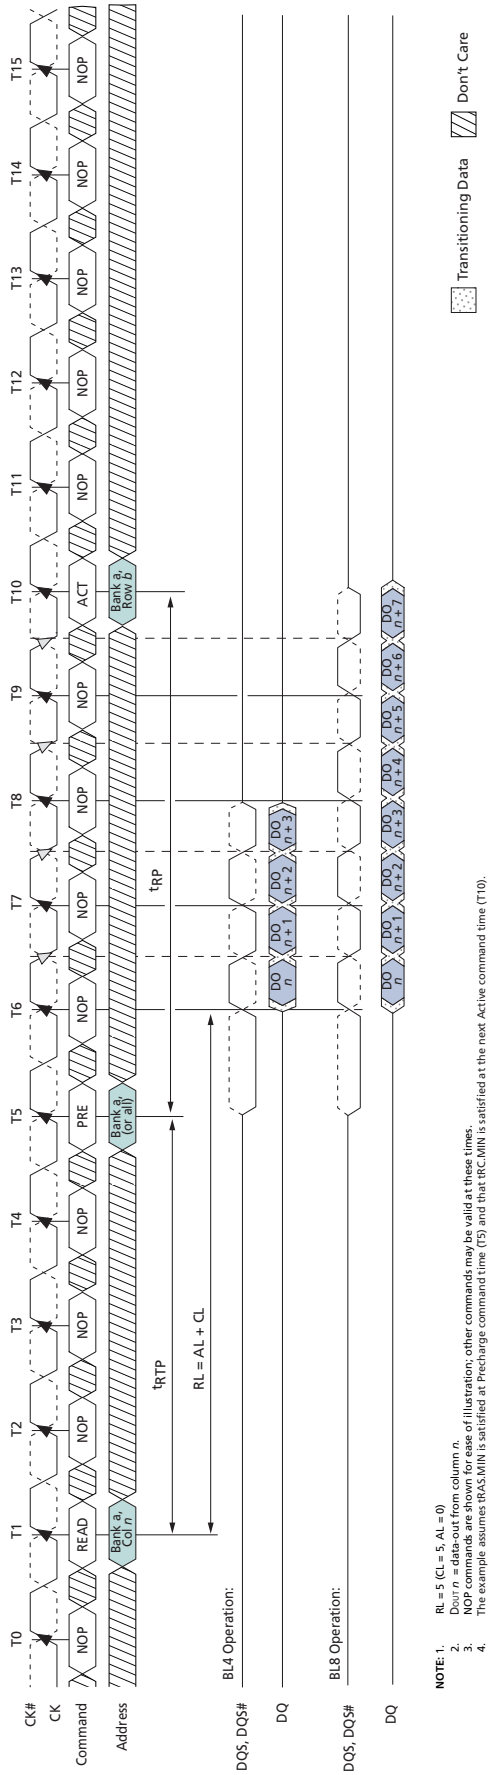
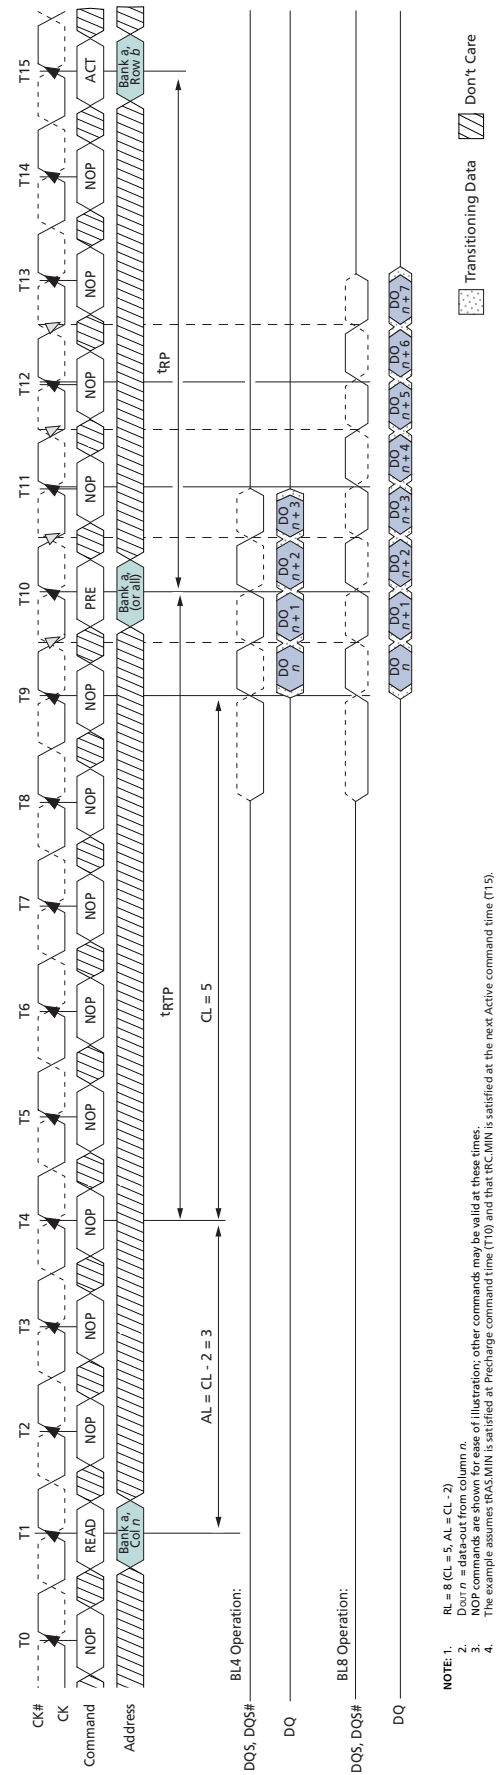

Figure 42 — READ to PRECHARGE, $RL = 5$, $AL = 0$, $CL = 5$, $tRTP = 4$, $tRP = 5$
Figure 43 — READ to PRECHARGE, $RL = 8$, $AL = CL - 2$, $CL = 5$, $tRTP = 6$, $tRP = 5$
- Examples of Read commands followed by Precharge are shown in Figure 42 and Figure 43.